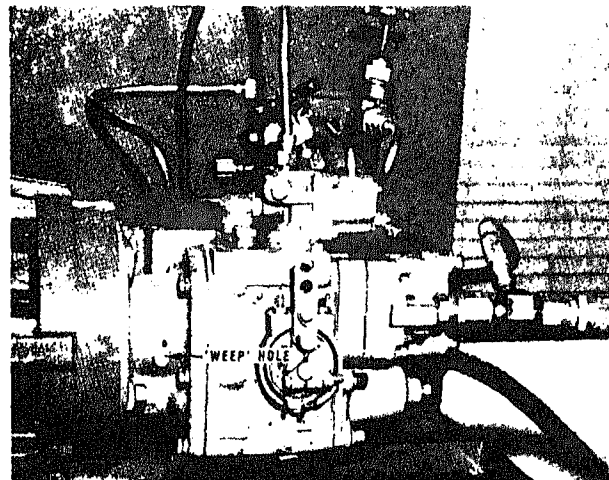

Fig. 511-15. Checking "weep" hole for leakage
2. Put a small amount of Lubriplate or light cup grease over the vent or "weep" hole at mainshaft seal bore of fuel pump front cover. Fig. 511-15.